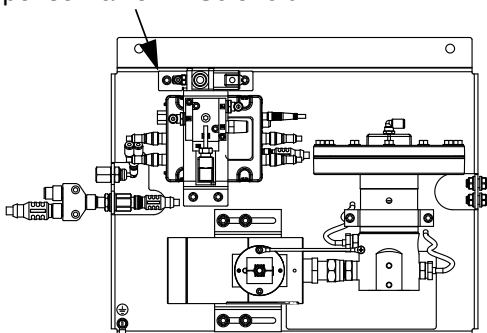

FIG. 39: Dispense Valve Air Solenoid
4. If the dispense valve cannot be actuated from the control center, refer to FIG. 39 and perform the following steps to open the dispense valve and relieve fluid pressure:
- a. Manually actuate the plunger on the solenoid to open all dispense valves attached to this fluid plate and relieve fluid pressure. See FIG. 39.